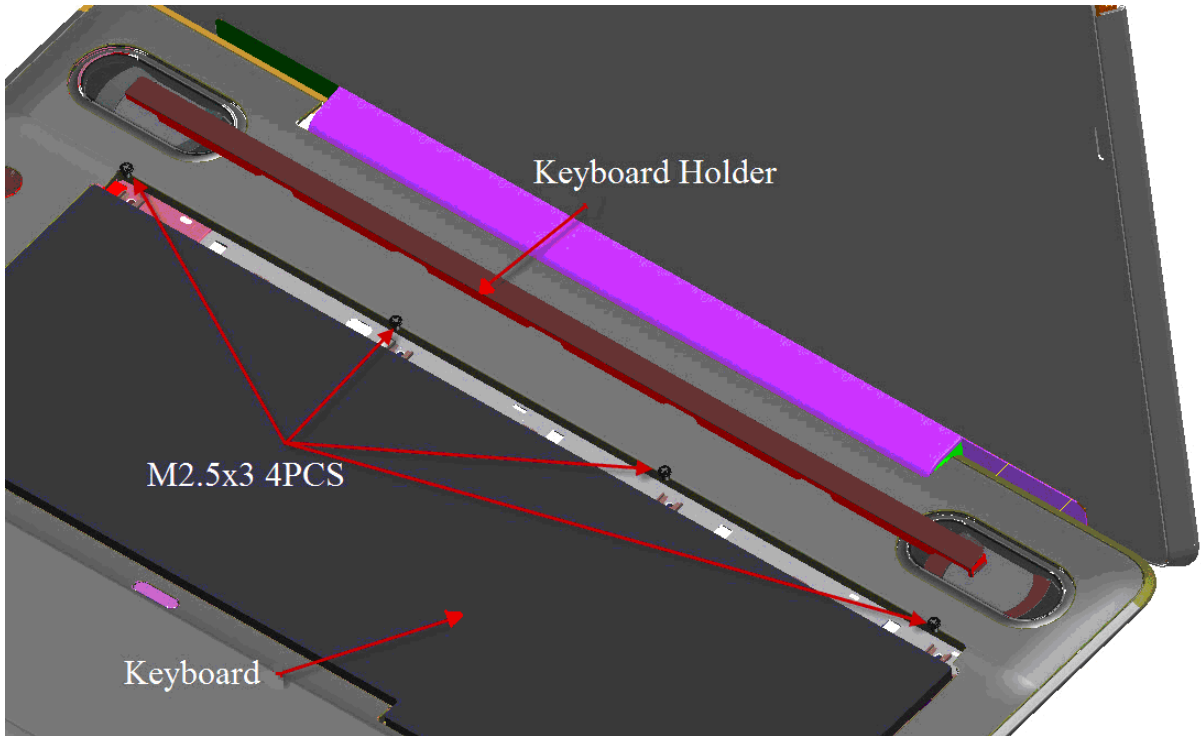

Figure 4-9-1 Remove screws for KB Holder
The following describes the procedure for removing the keyboard (See Figure 4-9-1).
6. Disassemble **KBD Holder** and **Keyboard** screw (See Figure 4-9-1)